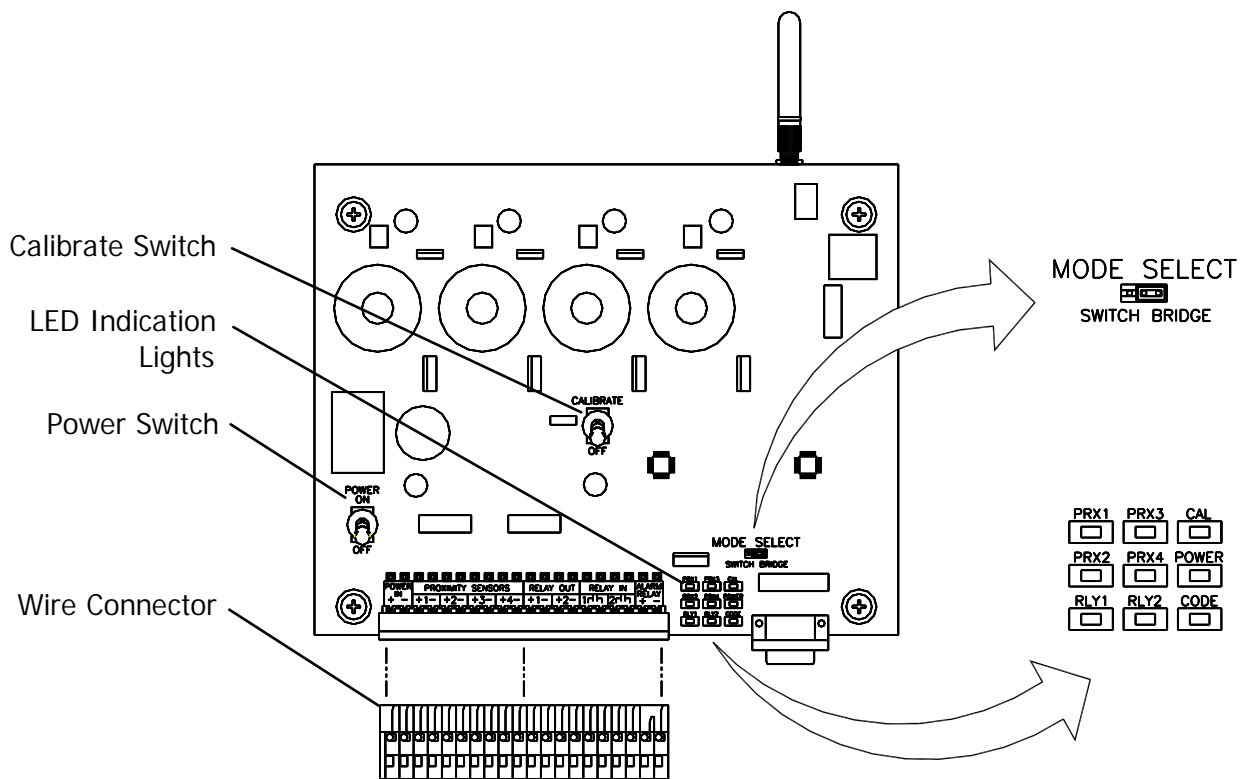

Figure 1. VPD Circuit Board Layout
During normal operation the following LED indications (see Table 1. Page 6) located on the circuit board will appear as depicted in the following table (refer to Figure 1 for location of the LED indication lights): This table is shown as typical for each of the four circuit boards used on the Morley Bridge.
To begin using the Remote Status Unit handheld, turn on the power switch located on the lower portion of the unit. The LED on the handheld switch will light to show power "ON". Ensure that the "CALIBRATE" mode switch is turned to the "on" position on the VPD circuit board (refer to Figure 1) only on the circuit board requiring calibration. A corresponding "CAL" LED on the circuit board will illuminate to indicate an "ON" status. The RSU will go through a normal startup sequence where each LED on the unit illuminates to confirm operation. The red "VALID SIGNAL" LED must be illuminated on the RSU to confirm proper reception from the VPD circuit board's RF transmitter. The LED lights on the RSU handheld unit will flash occasionally to correspond with the circuit boards intermittent broadcasting of the VPD status. A loss of signal strength or operability of the handheld unit will usually indicate battery replacement is required.
If a proximity sensor or circuit board failure occurs, a red LED indicates an error code output on the VPD circuit board (see Figure 1, page 5) will flash on and off to indicate the error type as depicted on the following table. This VPD system feature is designed to aid the signal maintainer with most of the common troubleshooting issues.
1. Ensure that the calibrate mode switch, located near the center of the Vital Proximity Detection (VPD) circuit board has been turned on (see Figure 1, Page 5). A red indicator LED on the circuit board will illuminate to confirm an "on" position.